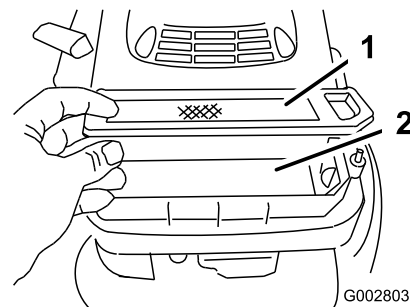

Figure 24
5. Remove and inspect the paper air filter (Figure 24), and discard it if it is excessively dirty.